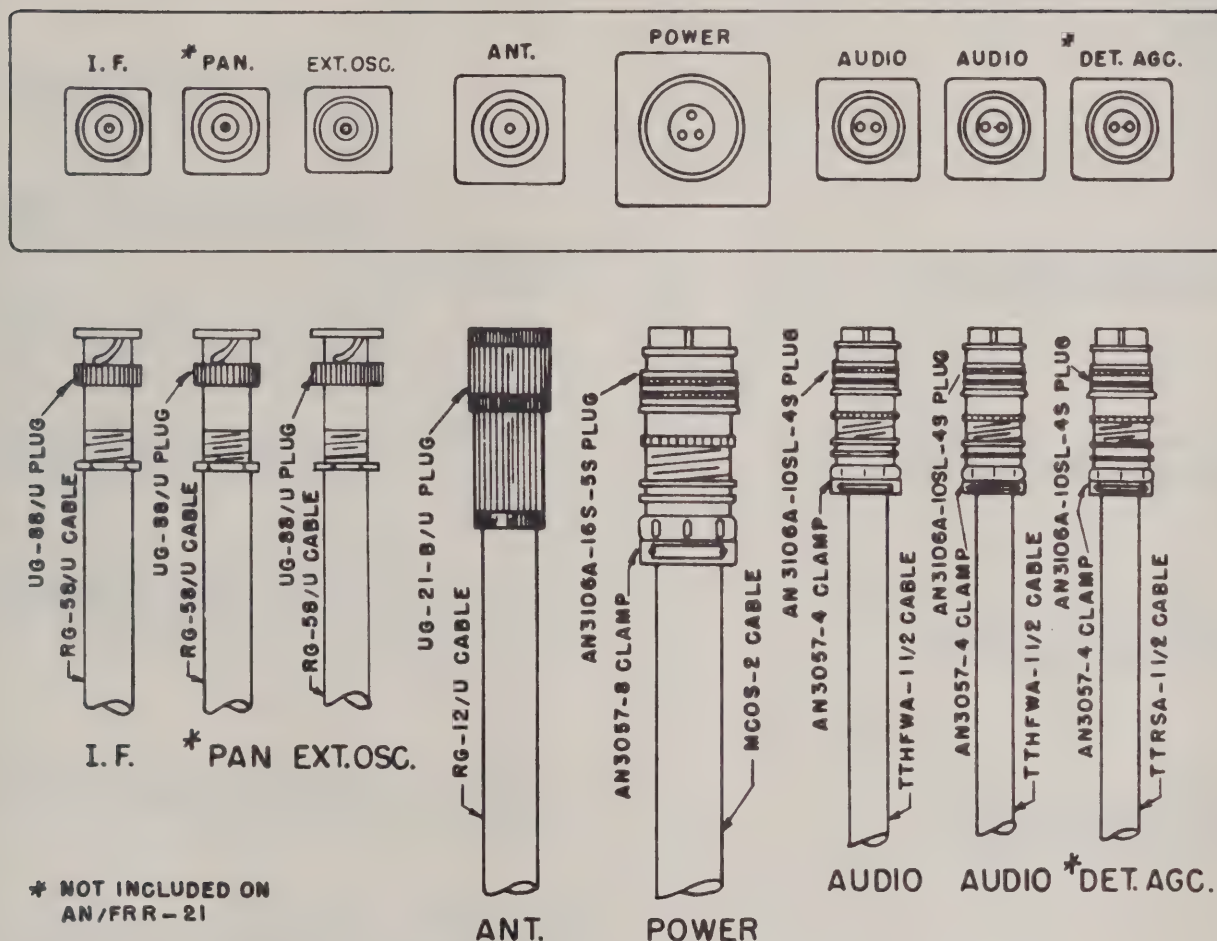

Figure 3-3. External Cabling Diagram
d. CABLING.—Cables must be run to appropriate receptacles at the back of the receiver to complete installation. See figures 3-3 and 3-13. In a standard installation, these cables will include the power line, antenna lead, and one or two audio cables. Receptacles have been provided for use with a panoramic adapter, a frequency shift converter of either the i-f or audio type, and additionally on the AN/FRR-22 and -23 receivers on External oscillator. A receptacle labeled DET AGC. has been provided on the AN/FRR-22 and -23 receivers for diversity application. Table 3-1 lists cable connectors and functions.
e. CABLE FABRICATION.—Receptacles are provided at the rear of the receiver and are labeled I.F., PAN, EXT. OSC., ANT., POWER, AUDIO, and DET. AGC. These are shown in figure 3-3 together with their external mating connectors and related cables. The connectors are provided in a paper container packed with the receiver. These connectors are shown in figure 1-1. The tools needed for fabrication of cables to these connectors are a pair of long nose pliers, a pair of diagonal pliers, a screwdriver (4-inch blade), a soldering iron, solder, and a small knife. Instructions for fabricating cable to plug are as follows:
f. EXTERNAL CONNECTIONS.—As stated in paragraph 2d, the intended application of the equipment will determine what particular cables are to be used. The cables having been fabricated as set forth in the preceding paragraph 2d or 2e, connect them as described below and as shown in figure 3-3 in accordance with the contemplated installation requirement.
(1) NORMAL INSTALLATION.—An antenna cable, a power cable, and one or two audio output cables are required. Fabrication of these cables is described in paragraphs 2e(4), 2e(5), and 2e(6) respectively.